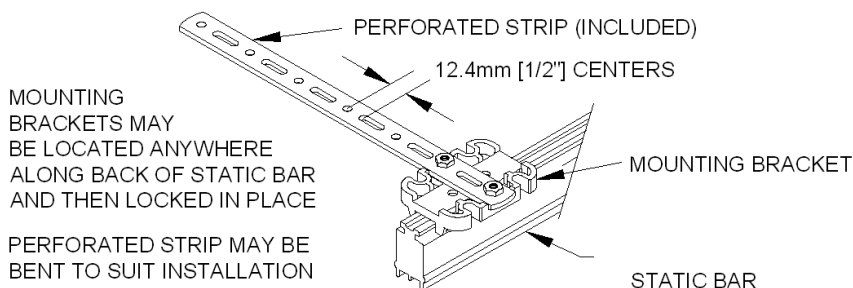

Figure 2 – Static Bar Mounting Kit
The static bar is supplied with a mounting kit which contains “Blue” plastic mounting brackets, perforated strips, hardware, and set screws (**Figures 2 and 3**).
4. Locate the “Blue” plastic mounting brackets and slide them onto the “T” channel on the back of the static bar. Refer to **Figure 2**.